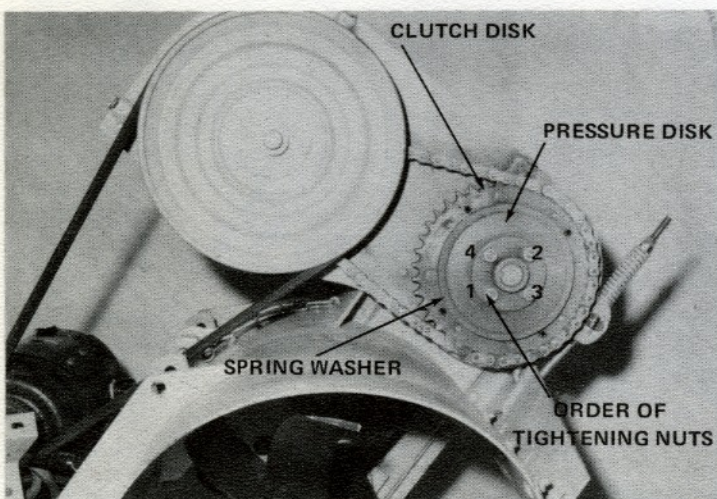

FIG. 3 - TORQUE LIMITER ADJUSTMENT
ADJUSTMENT Refer to Fig. 3
- E.) Reassemble and adjust as described in Torque Limiter Adjustment (Pg. 1, Fig. 3).